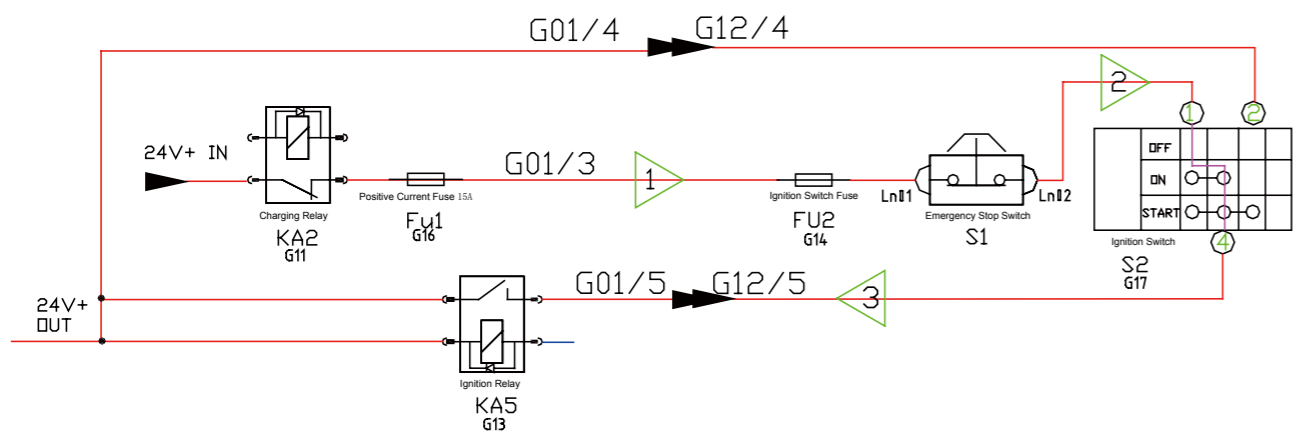

Fig. 2
- Turn the ignition switch S1 to the second gear, the ignition relay KA5 is not energized to supply power. As shown in Figure 2, the current trend direction is 1—2—3 ( Ignition switch S1 second gear ) .